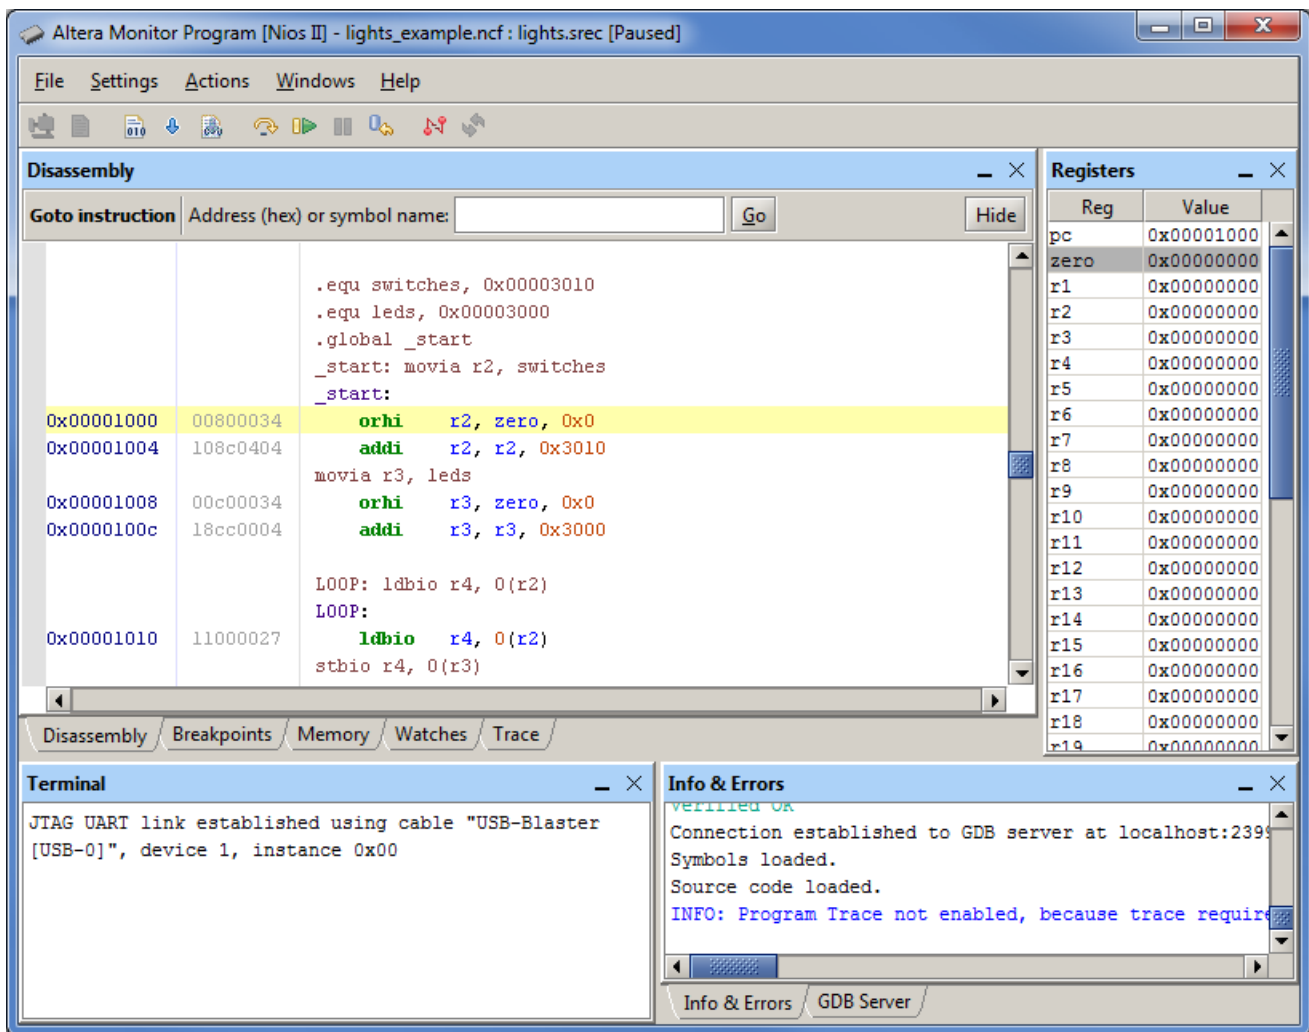

Figure 33. Display of the downloaded program.
10. The downloaded program is shown in Figure 33. Run the program and verify the correctness of the designed system by setting the slider switches to a few different patterns.